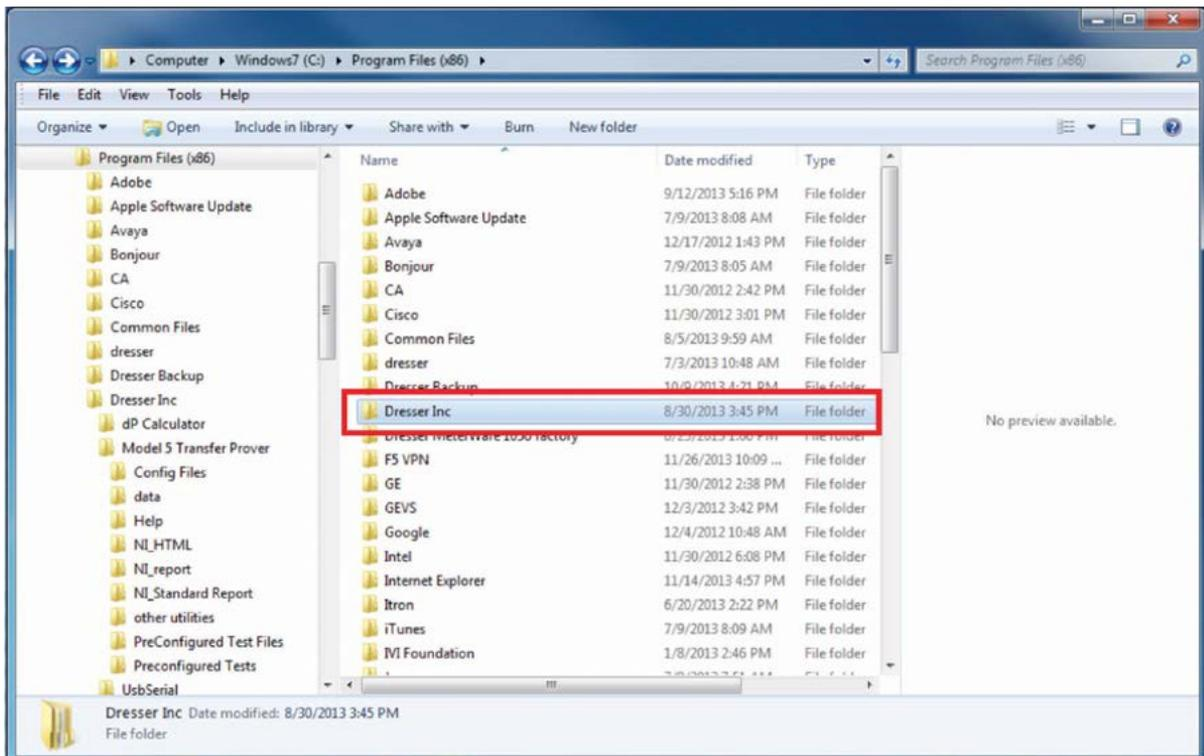

Figure 12: Find “Dresser Inc”
12. Within the appropriate folder, select the folder named “Dresser Inc” as shown in **Figure 12**.